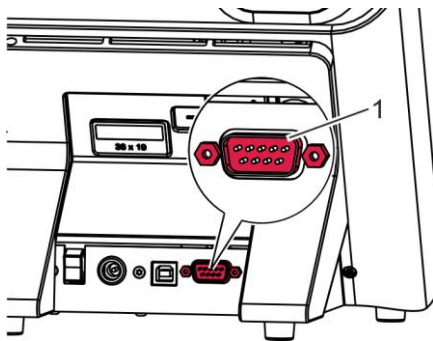

Fig. 17: RS232 port
3. Insert the coupling on the RS232 cable into the RS232 port (Fig. 17/1).
3. Insert the coupling on the AT link cable into the RS232 port (Fig. 17/1).